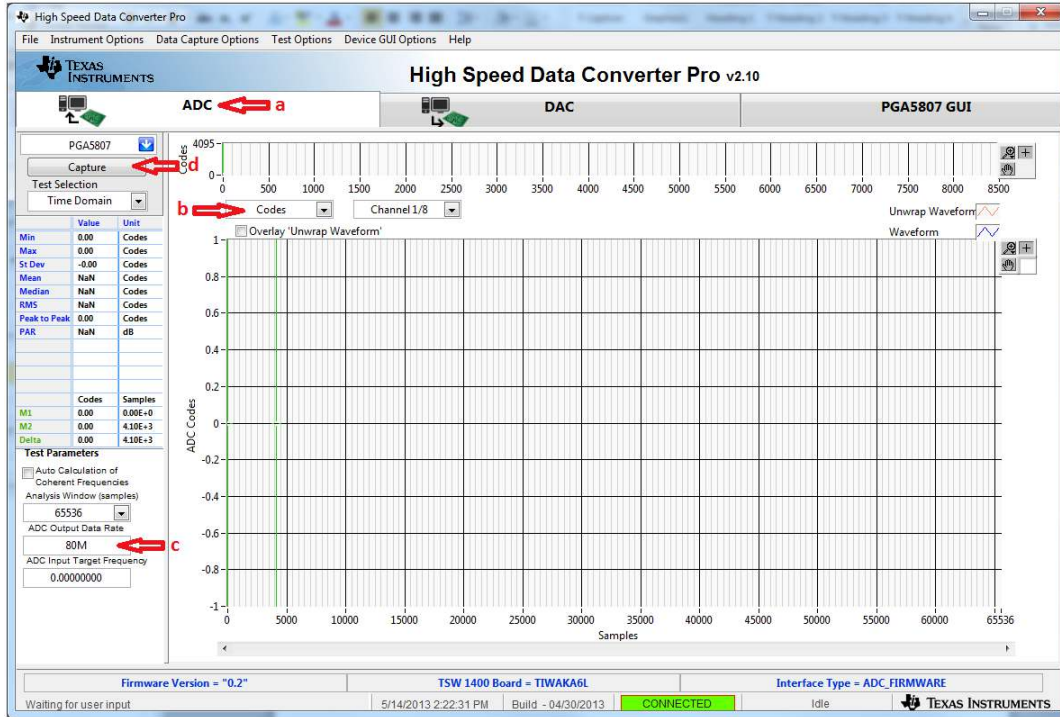

Figure 33. HSDCpro GUI Setup for RAMP Test
2. Perform the following steps highlighted in Figure 33: